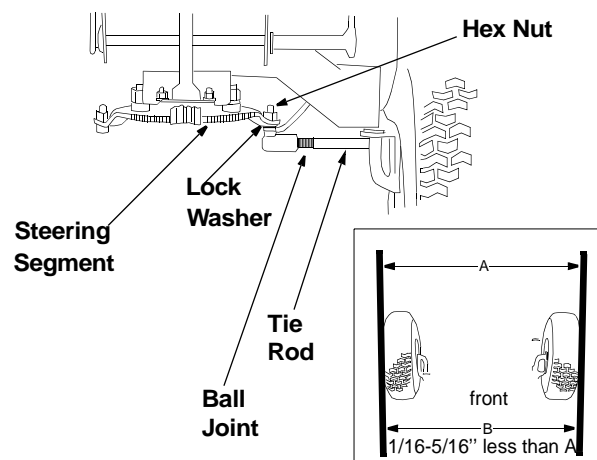

Figure 11
- Remove the  $\frac{3}{8}$ " hex nut which holds the ball joint to the steering segment. See Figure 11.
- Adjust the ball joint in or out until the wheels toe-in approximately  $\frac{1}{16}$ - $\frac{5}{16}$ " (Dimension "B" should be approximately  $\frac{1}{16}$ - $\frac{5}{16}$ " less than dimension "A"). See Figure 11.